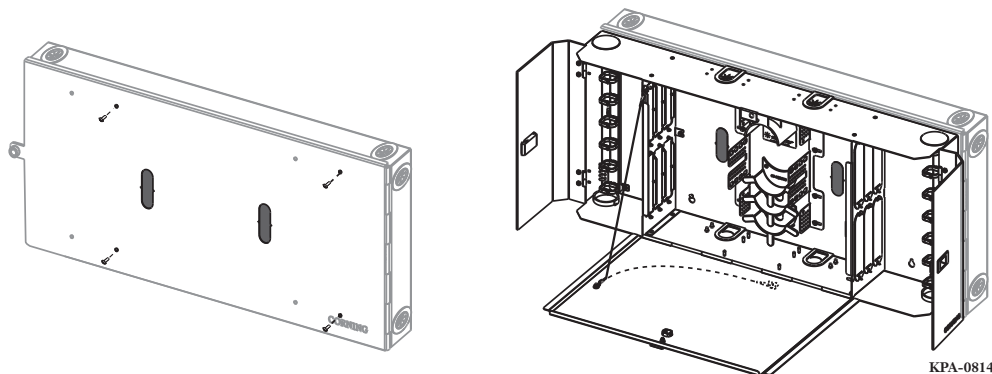

Figure 8 — Mount Slack Storage Housing to PWH Connector Housing
- Step 2:** Hang the wallmount housing on the screws and tighten the screws (Figure 8).